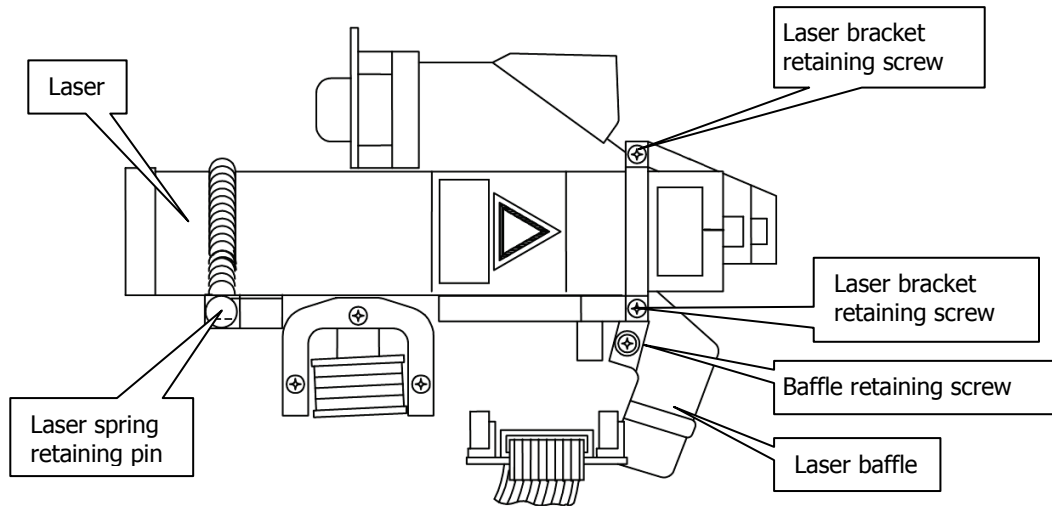

Figure 57 Laser and power supply installation
6. Unhook the spring at the rear of the laser, and remove the two screws on the retaining bracket at the front of the laser (Figure 57).